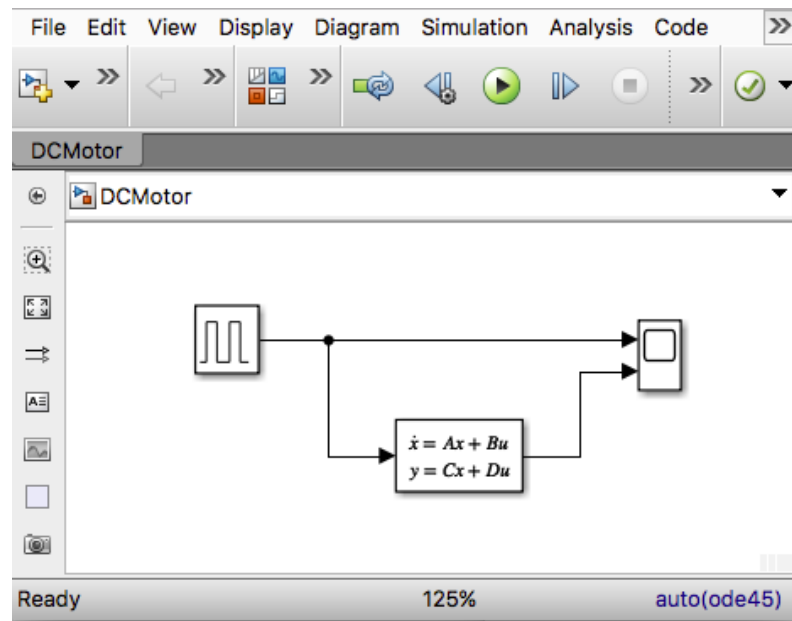

Figure 3. Simulink model to simulate voltage step response of DC motor output velocity.
- Add an oscilloscope signal sink and plot the output velocity of the motor and also the voltage input signal. Your Simulink models should look something like that shown in Fig. 3.